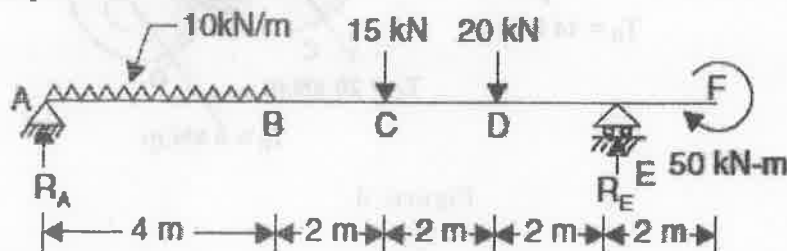

Figure 5
16. (a) Draw the bending moment and shear force diagram for the beam loaded, as shown in Figure 5. Mark the values at the salient points. Determine the point of contraflexure.